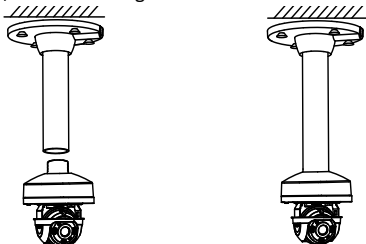

Figure 2-16 Fix the Junction Box with Pendent Bracket
4. Fix the junction box with the bracket by rotating the box, as shown in Figure 2-16.